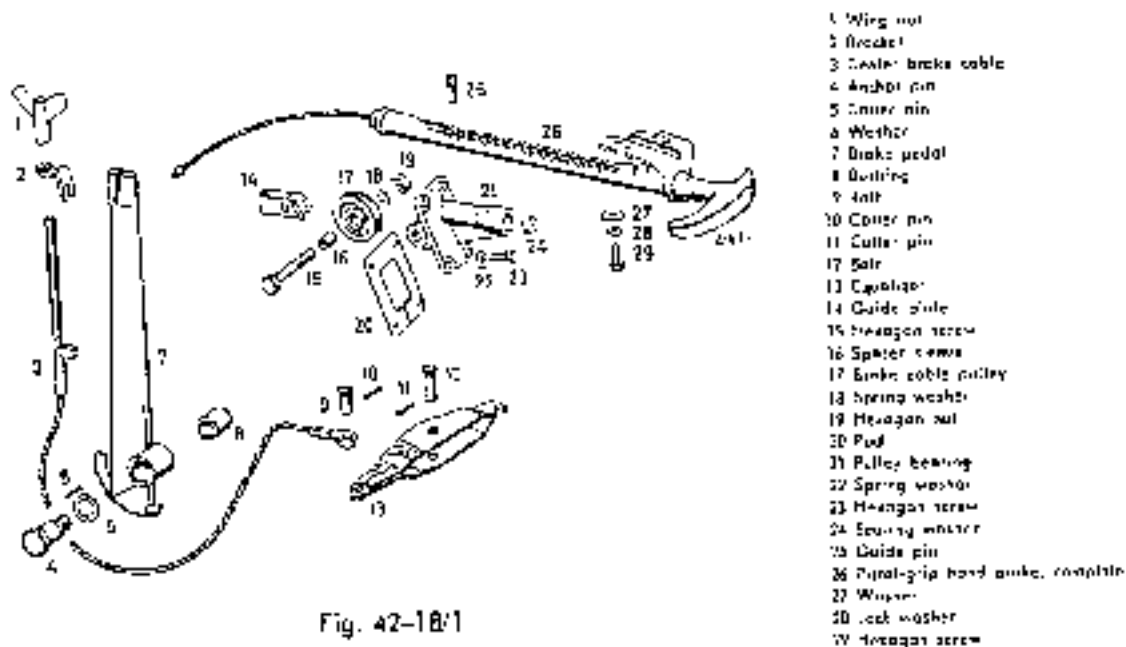

Fig. 42-18/1
Also on this model the pistol-grip hand brake is arranged on the left side below the steering column. The guide tube of the ratchet is not attached to the steering column jacket but to the cowling (by two hexagon screws at the top and by the pulley bearing (21) below), and the front brake cable is carried by the brake cable pulley (17) (Fig. 42-18/1).
When reinstalling the ratchet make sure that the guide plate (14) is properly sealed on the pulley (17) (Fig. 42-18/1).